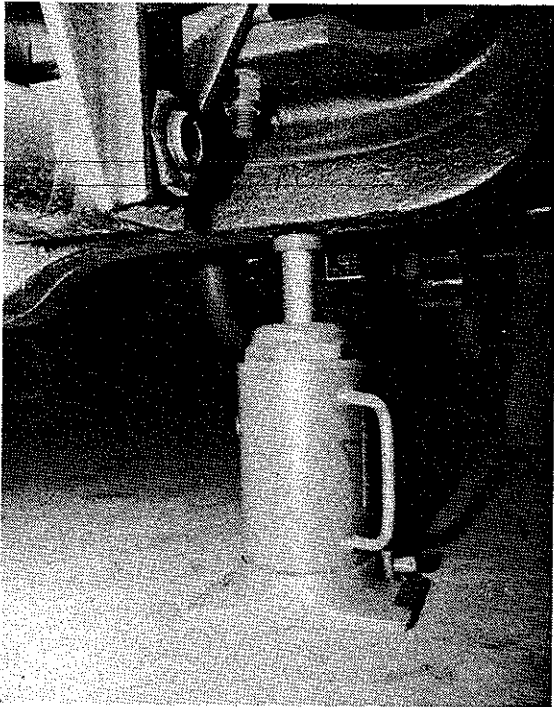

Figure 8-1. Locating Jack
3. Turn off ignition and set transmission selector to **Neutral (N)** position.
6. Place jack under axle and raise slightly until securely in place. See figure 8-1 for location of typical jacking point.